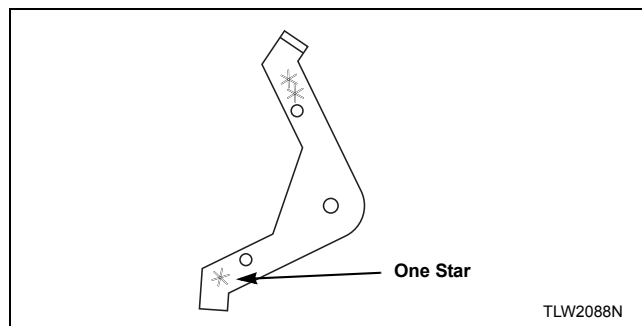

Figure 34
2. Install extension lever with arm that has one star facing down. Refer to *Figure 34*.